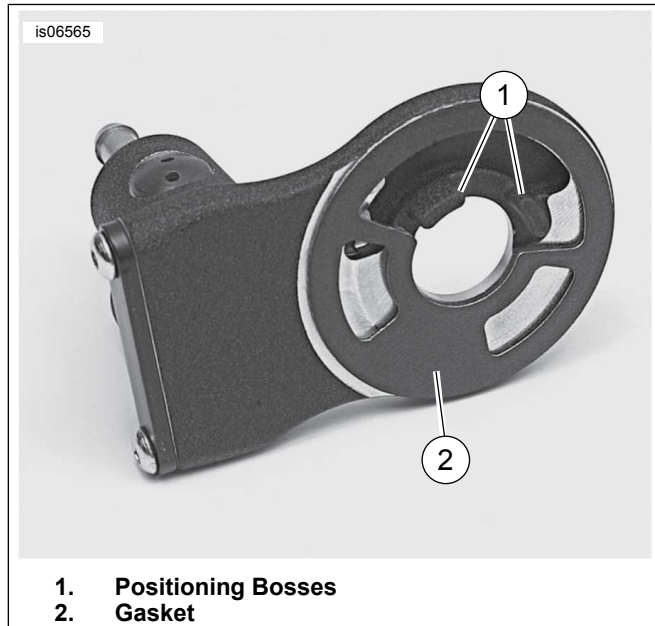

Figure 1. Oil Cooler Adapter
3. See Figure 1. Match the positioning bosses (1) on the oil cooler adapter to the oil filter adapter.